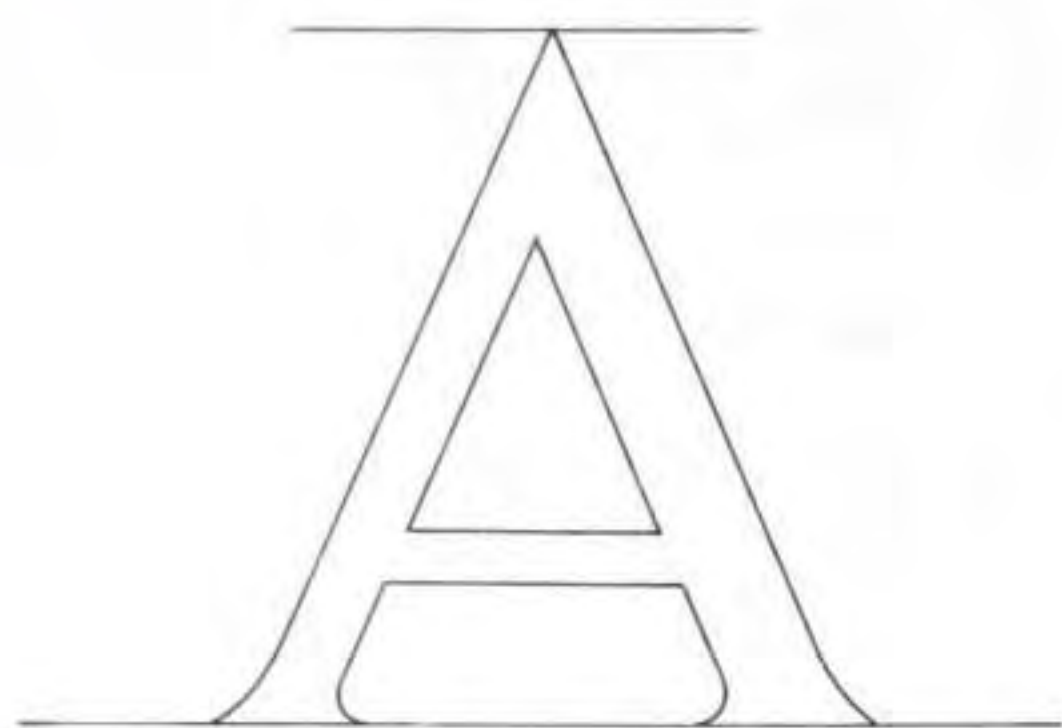

Fig 8.56 Layout for A. Letter height for exercise : 50mm.
- 1 Draw out the cap and base lines and the letter itself (see Fig 8.56).